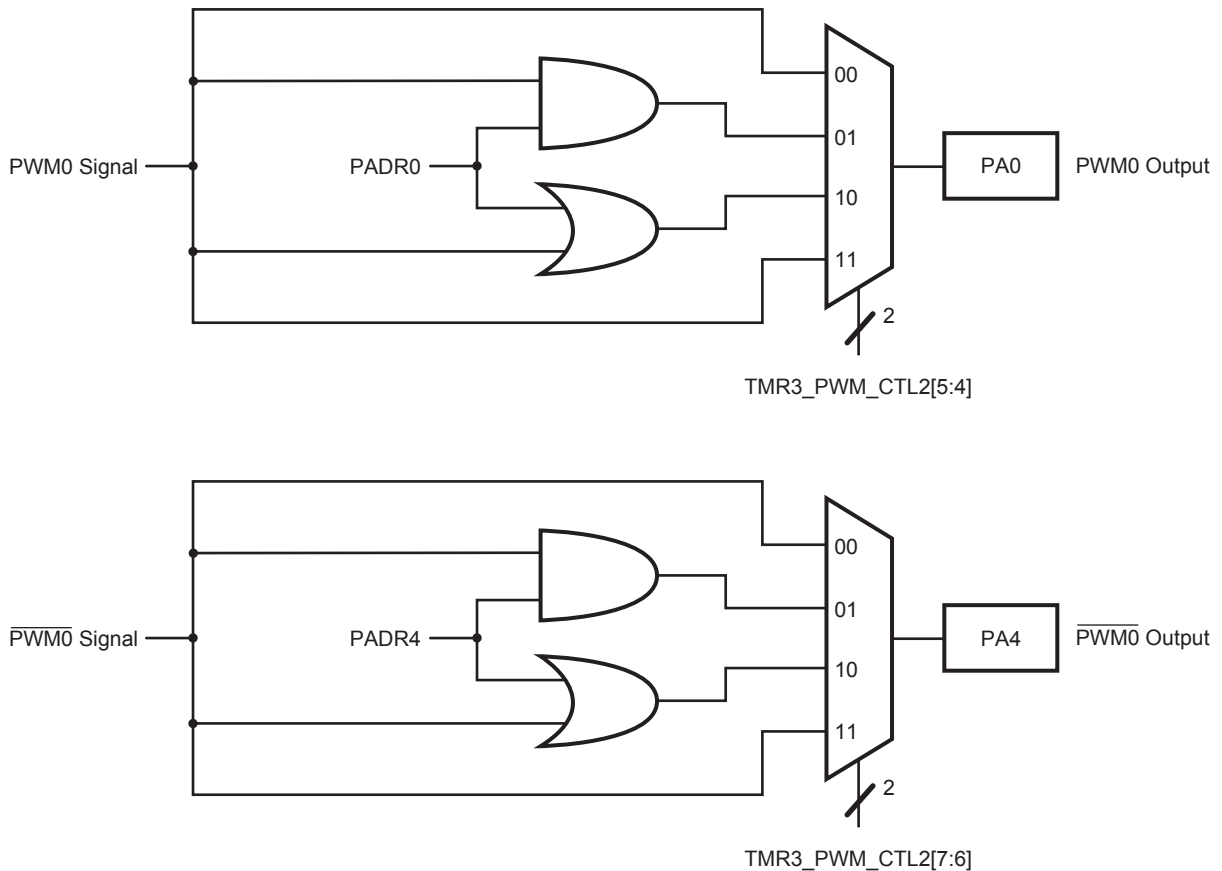

Figure 33. PWM AND/OR Gating Functional Diagram
The AND or OR functions are enabled on all PWM outputs by setting TMR3_PWM_CTL2[AO_EN] to either a 01b (AND) or 10b (OR). Any other value disables this feature. Likewise, the AND or OR functions are enabled on all $\overline{\text{PWM}}$ outputs by setting TMR3_PWM_CTL2[AON_EN] to either a 01b (AND) or 10b (OR). Any other value disables this feature. A functional block diagram for the AND/OR gating feature for PWM0 and $\overline{\text{PWM0}}$ is illustrated in Figure 33 on page 150. The functionality for the other three PWM pairs are identical.